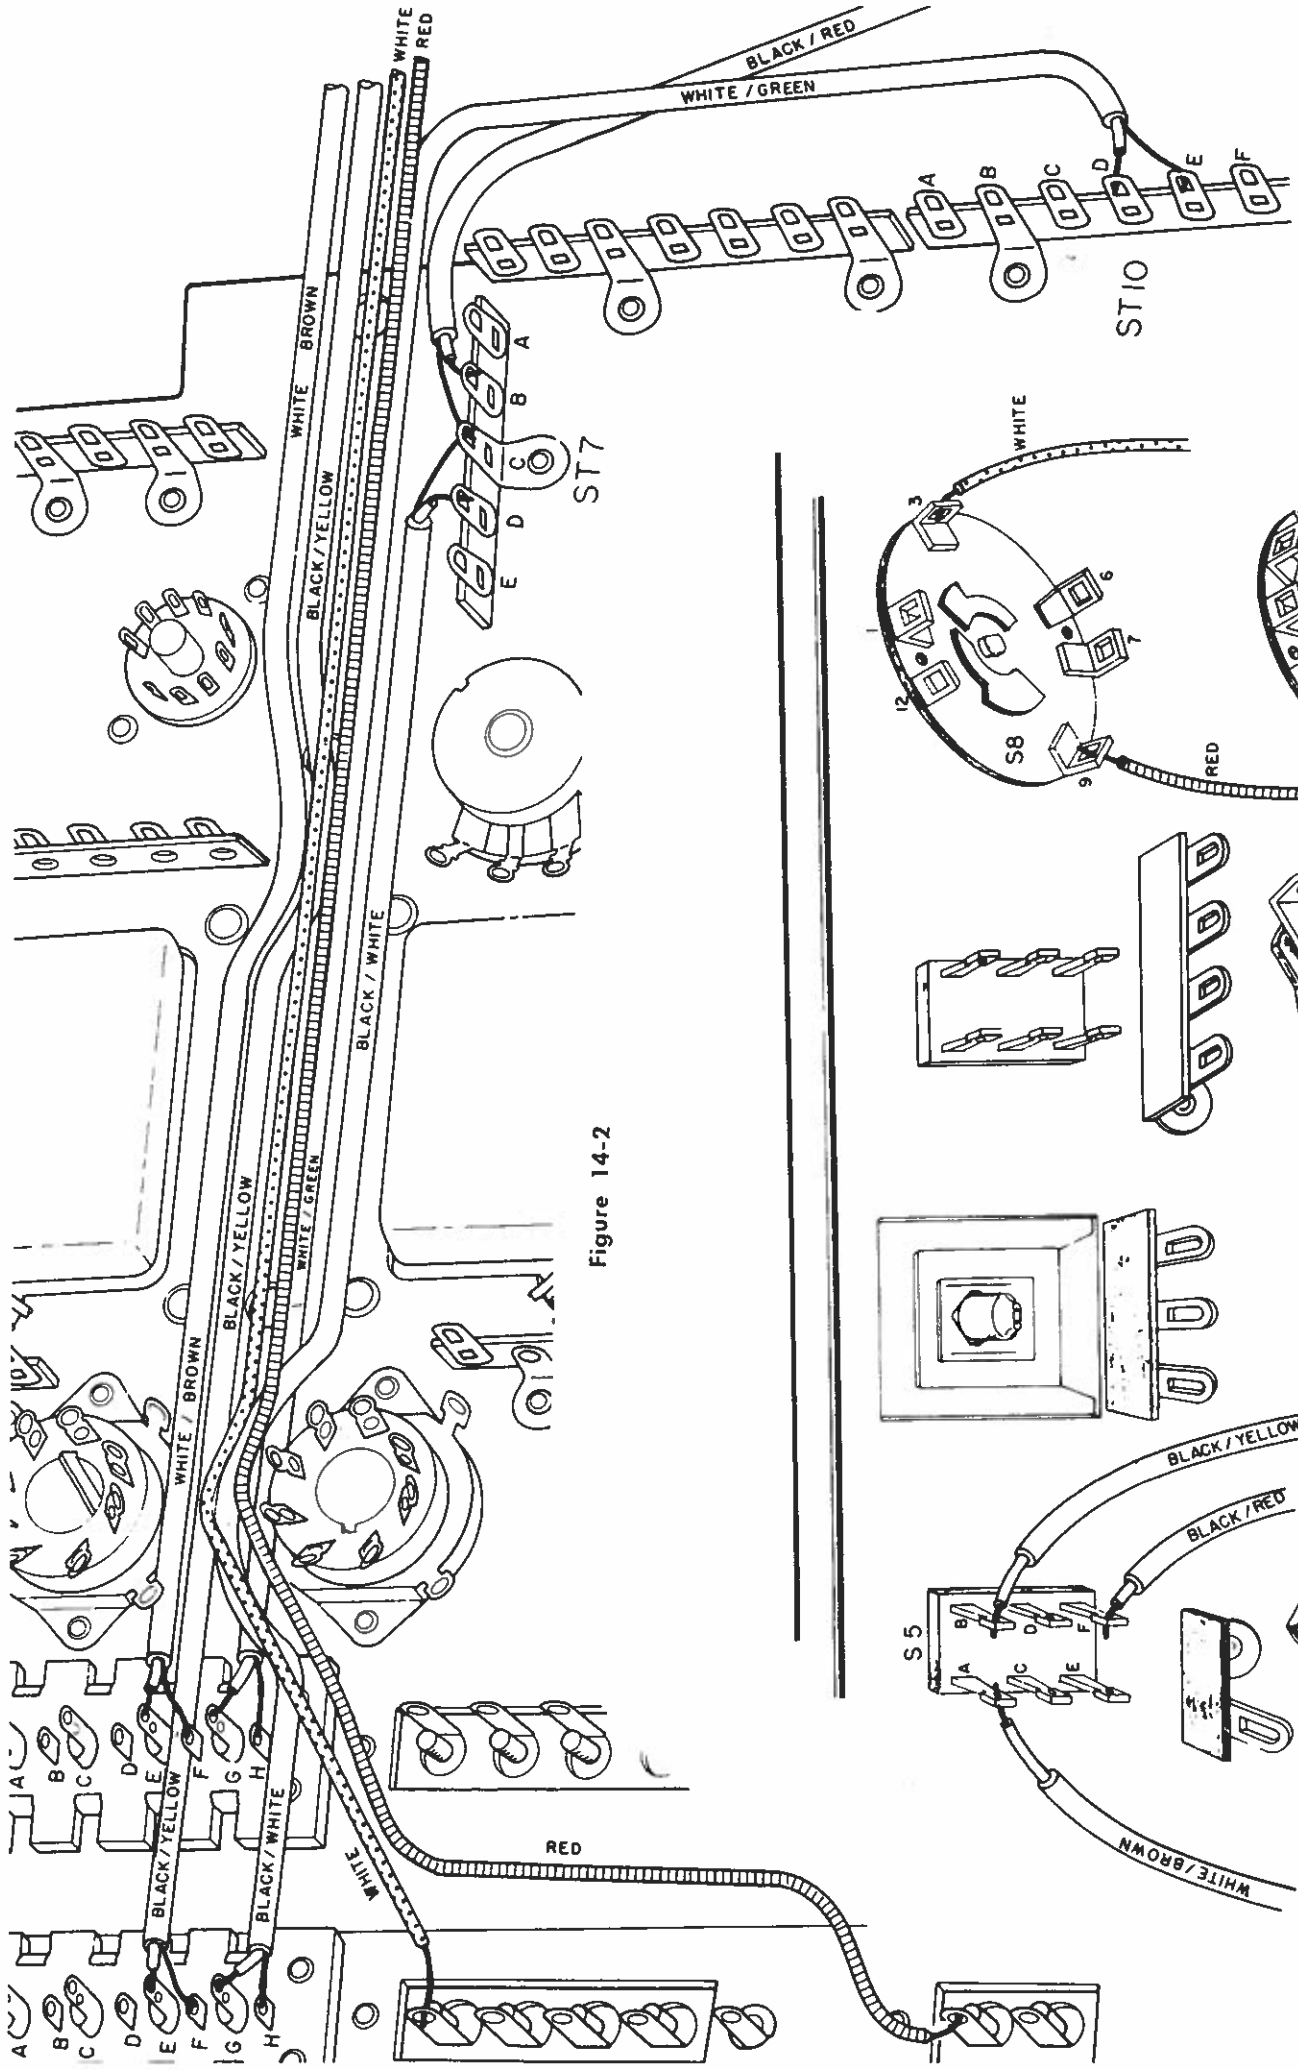

Figure 14-2
Turn over the chassis so you can connect these wires into the circuits. Notice that all of the wires connected to lugs at the rear of the chassis are run in parallel with those already connected. See Fig. 14-2.
**Step 14L**  Locate the black with red tracer cable from switch S5. Run it as shown in Fig. 14-2. Connect the center wire to lug B of strip ST7; connect the ground wire to lug C of ST7.